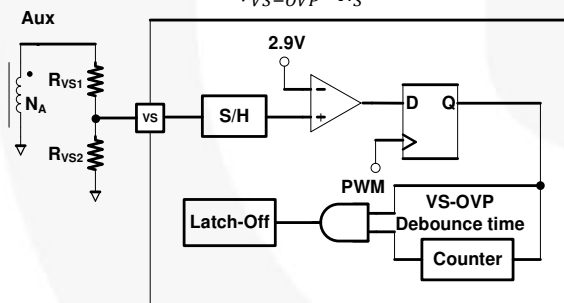

Figure 47. VS-OVP Protection Circuit
VS over-voltage protection prevents damage caused by output over-voltage condition. It is operated in Latch-Off mode. Figure 47 shows the internal circuit of VS-OVP protection. When abnormal system conditions occur, which cause VS sampling voltage to exceed  $V_{VS-OVP}$  ( $2.9 \text{ V}$ ) for more than 2 consecutive switching cycles ( $N_{VS-OVP}$ ), PWM pulses are disabled and FAN602L enters Latch-Off protection. VS over-voltage conditions are usually caused by open circuit of the secondary side feedback network or a fault condition in the VS pin voltage divider resistors. For VS pin voltage divider design,  $R_{VS1}$  is obtained from Equation (10), and  $R_{VS2}$  is determined by the desired VS-OVP protection function as: